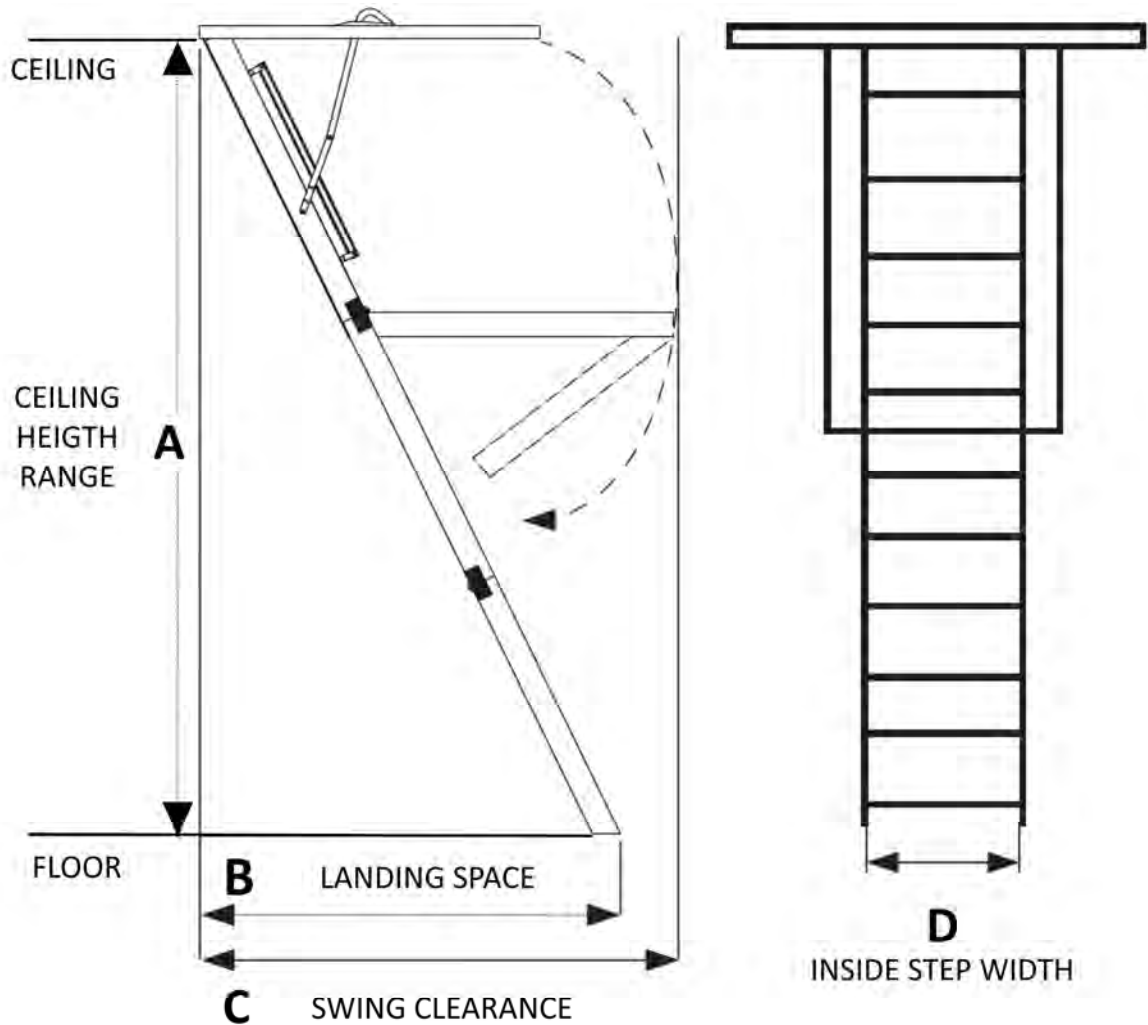

FIGURE 2
Allow ample room for the swing clearance and the landing space of the folding attic ladder when it is opened, (See **Figure 2** and **Table 3**). Locate the folding attic ladder rough opening so that you have adequate head clearance and walking area when entering the attic.
1. Replacement: Verify the current rough opening size and placement See **Figure 2** and **Table 3**. **If adjustments are needed, see APPENDIX to reframe the rough opening.**